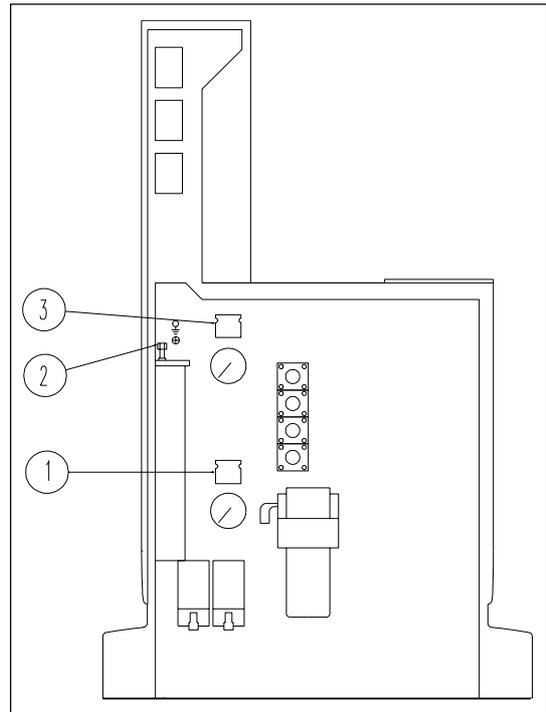

Figure 11. Open unit, seen from mechanical side.
- 2) Pull the button (1) on Fig. 11 up and set the water pressure at 0.5 bar.
- 3) If the unit has a boiler, release air through valve (2) on Fig. 11. JP1 can now be connected to MAIN CONTROL again.
- 7) Then set the air pressure at 2 bar (while the syringe is activated) and press button (1) on Fig. 11 home.
- 8) Pull the button (3) on Fig. 11 up. Set the air pressure at 5.5 bar and press the button home again.